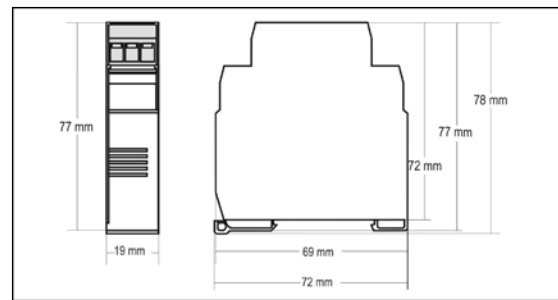

Figure 05 – Transmitter dimensions
**Housing:** ABS plastic. **Dimensions:** Refer to Fig. 05.